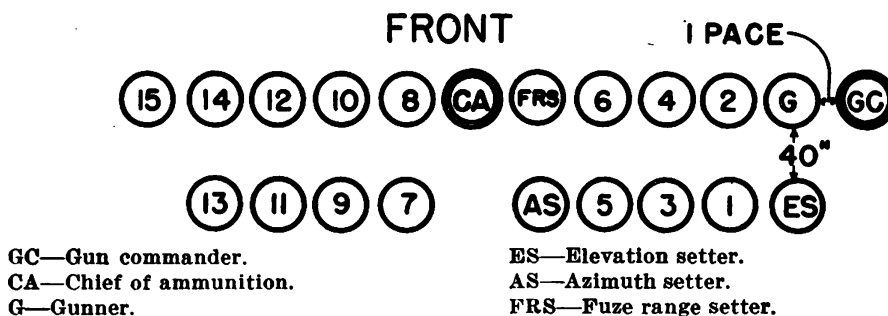

FIGURE 3.—Formation for 3-inch gun section.
- Q. How is the gun section formed? A. See figure 3.